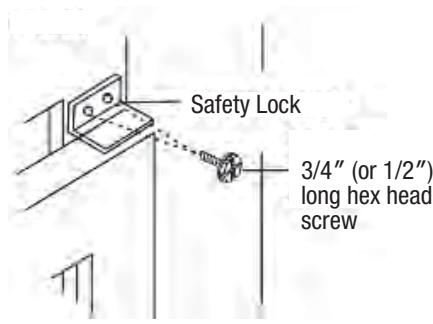

FIG. 19B
2. Attach right angle safety lock. (Fig. 19B)